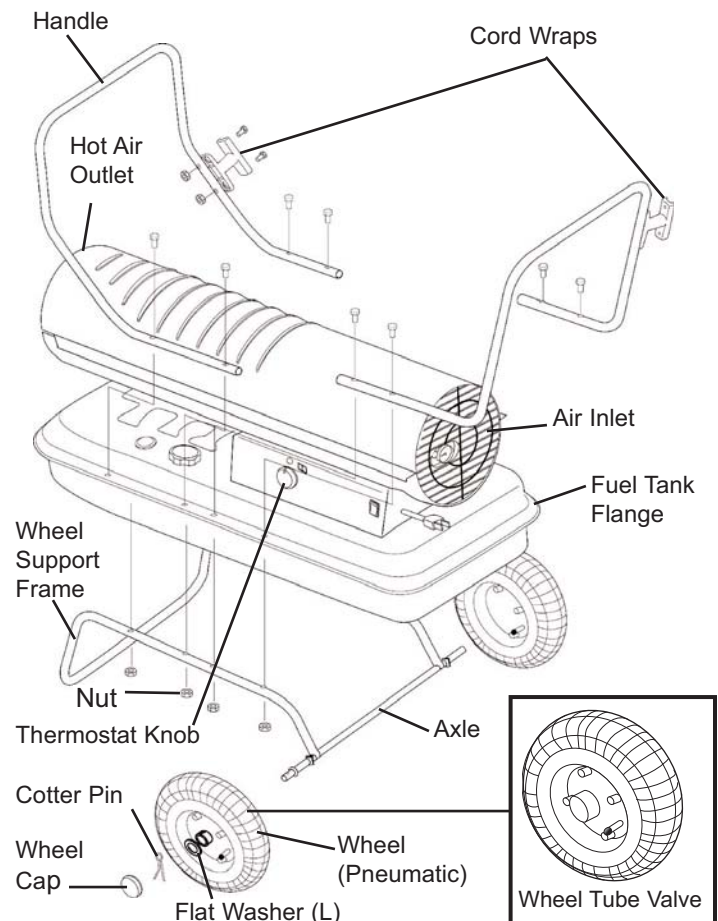

Figure 7. Assembly of Models HS-125T/175T/215T-KFA
1. Slide axle through holes in wheel support frame. Slide wheel bushings and flat washer (A) on to each end of axle.
2. Slide wheels on to each axle, being sure that the valve stem (if pneumatic) is to the outside (**see Figure 7**).
3. Slide flat washers (B) onto axle past the small hole. Insert cotter pin in axle hole and bent legs of pin with needle nose pliers to secure.
4. Snap the wheel caps onto the large washers (B).
6. Take the front handle and align the mounting holes with the corresponding holes in the tank flange/wheel frame. Slide a screw (A) through the holes and loosely attach a nut. Repeat for the other 3 holes, then fully tighten all 4 screws and nuts.
1. Align holes in cordwrap with corresponding holes in front handle. Insert screws (B) through holes, attach nuts and tighten (see **Figure 7**).